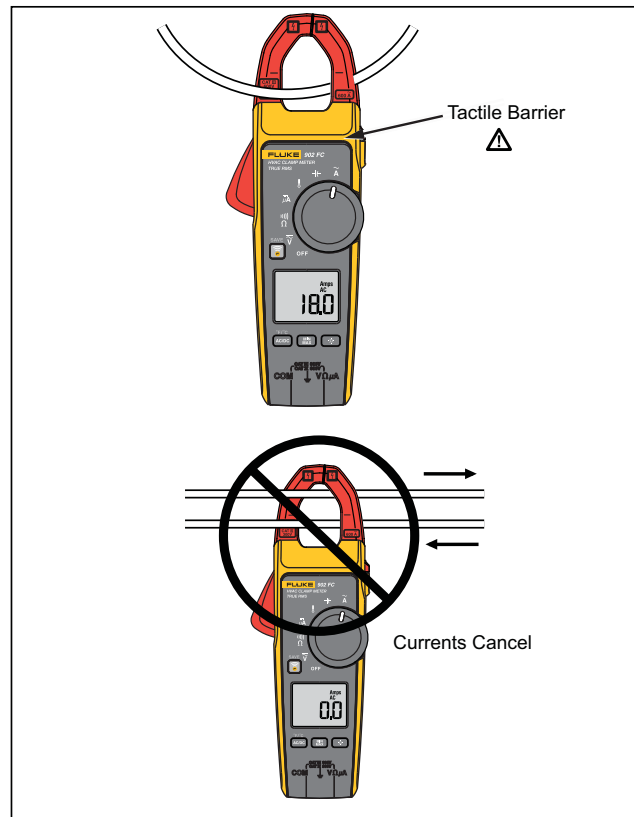

Figure 4. Proper AC Current Measurement
- Do not hold the Product anywhere beyond the tactile barrier (see Figure 4).
2. Center the wire within the clamp jaws below the horizontal line located on the clamp (see Figure 4).
Measure one wire at a time because currents moving in different directions will cancel each other out (see Figure 4).